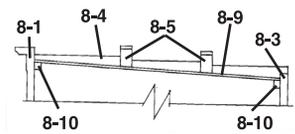

Fig. 3
1. Install Roof (8-9) through bottom of building and glue to bottom of Chimney Backs (Fig. 3).
3. Glue two Roof Supports to the bottom of Roof and along Front Wall and two to the bottom of Roof and along Rear Wall (Fig. 3).